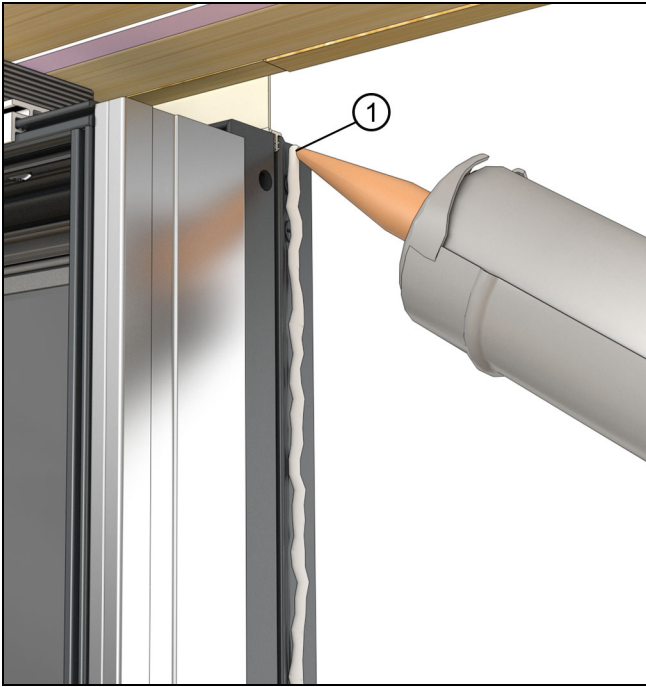

Figure 28
1. Apply a continuous 1/4" (6) bead of sealant along the length of the frame. See Figure 28.